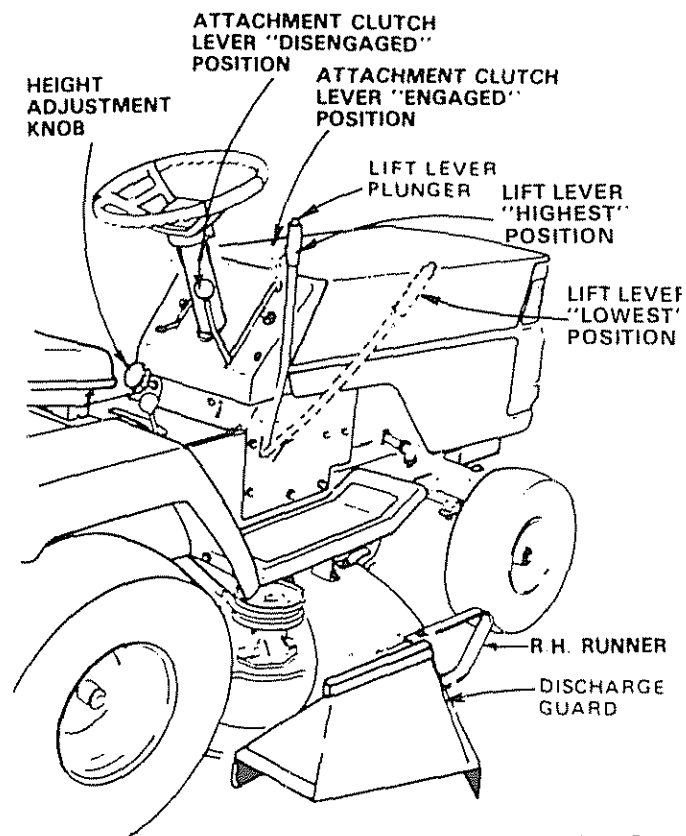

FIGURE 8
- a. Move the attachment lift lever to the high position and adjust height of cut to mid range. See Fig. 8.
- f. Move throttle lever to half throttle and slowly move attachment clutch lever to engaged position. Fig. 8
- b. Use the runner on the R.H. side as a guide; the blade cuts approximately an inch outside the runner (Fig. 8).